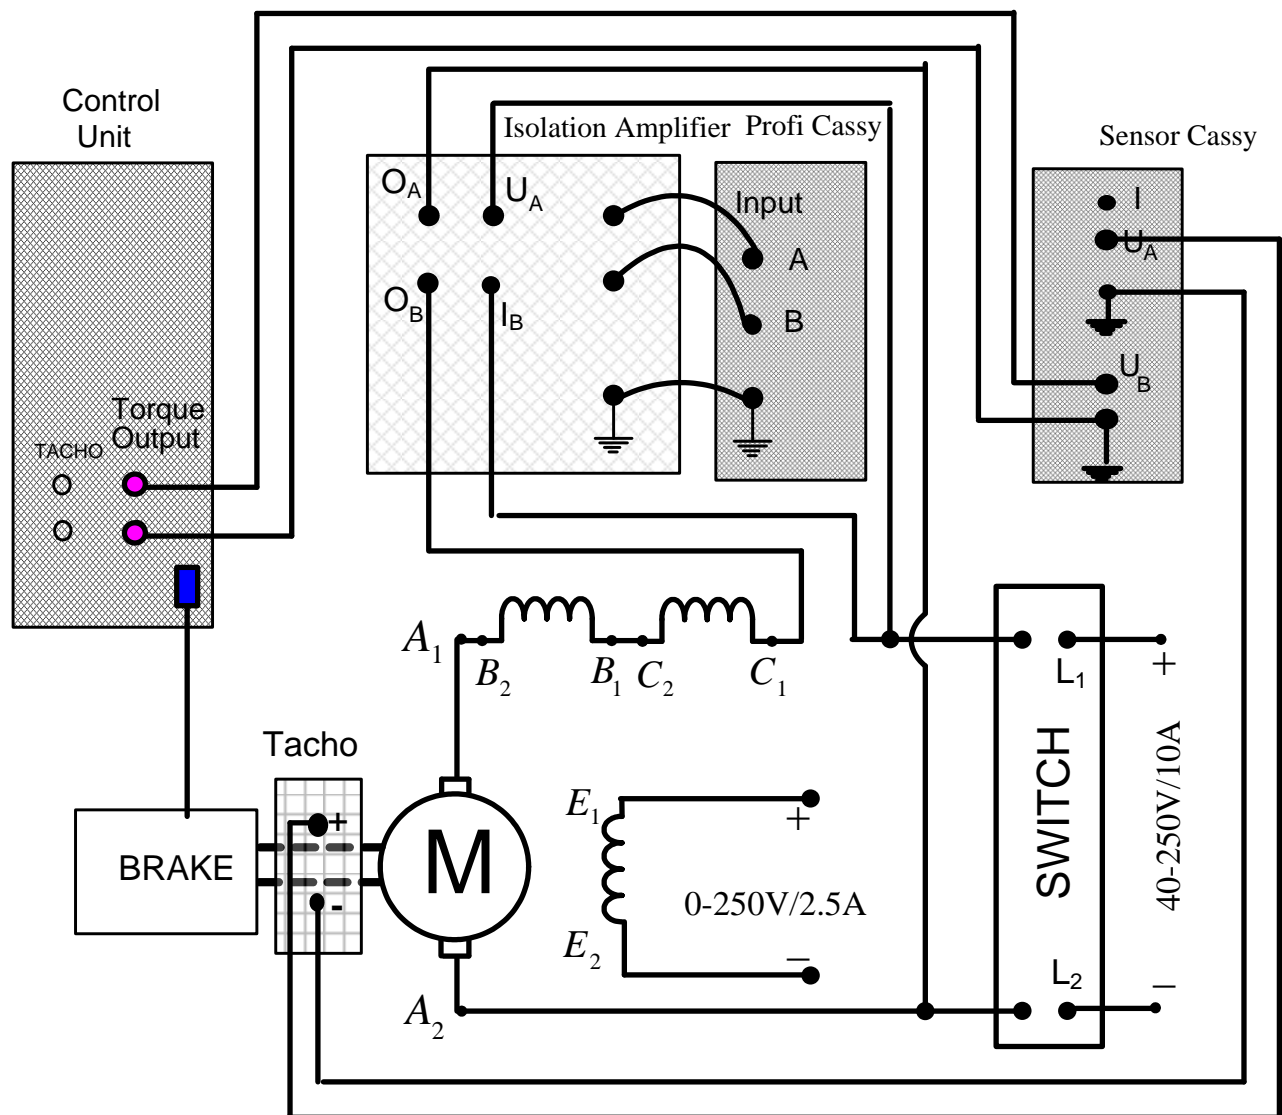

Fig. 5: Wiring diagram of separately excited DC motor
20. Connect the circuit as shown in Fig. 5. Note that the 0 – 24V/0 – 20 A DC supply is replaced by 40 – 250V/10A one. In addition the motor field $E_1 - E_2$ is connected to 0 – 250V/2.5A supply.